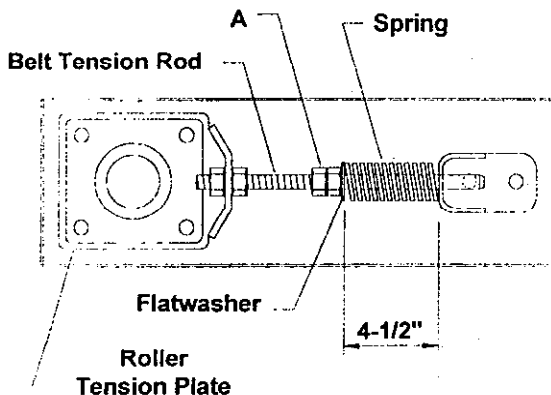

Figure 12
CONVEYOR BELT INSTALLATION/TENSION (Fig. 12 & 13)
CONVEYOR BELT and PULLEY ALIGNMENT (Fig. 12 & Fig. 14)
7. Use the spring tension nuts (A) to set the tension of the belt. Hold 4-1/2" overall spring length. See Fig. 12.